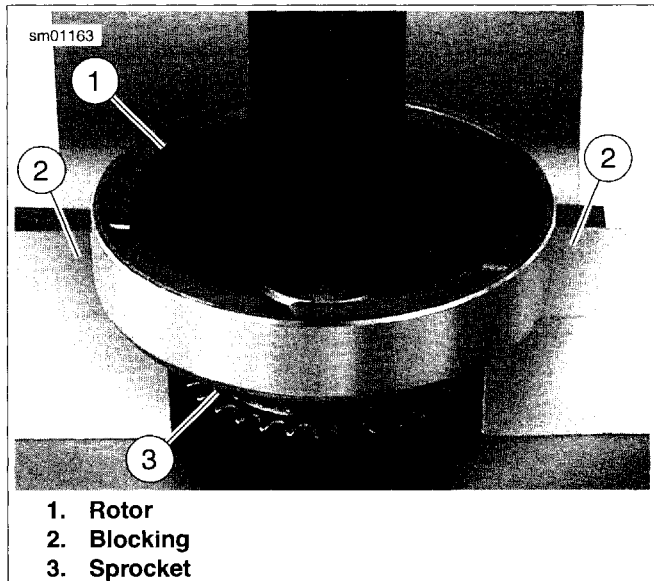

Figure 6-88. Removing Rotor from Sprocket (XL Models Only)
2. See Figure 6-88. Position blocking (2) under rotor (1). Press sprocket (3) free of rotor.